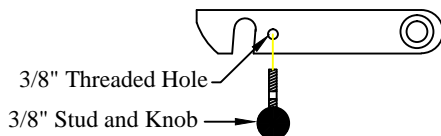

Figure 21: Original Series platform latch knob.
- 1. Install** the two (2) knobs on the platform latches (Original Series only) see (Figure 21).